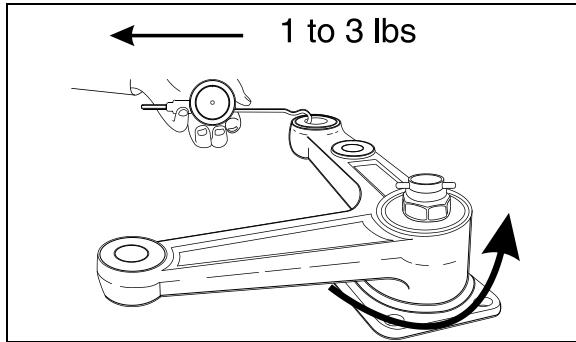

FIGURE 17: BELL CRANK
2. Remove the cap (Fig.17).
3. Remove the cotter pin, nut and tongue washer. Remove bearings, grease seal, bearing bushing and the bell crank or idler arm from its mounting spindle (Fig. 17).